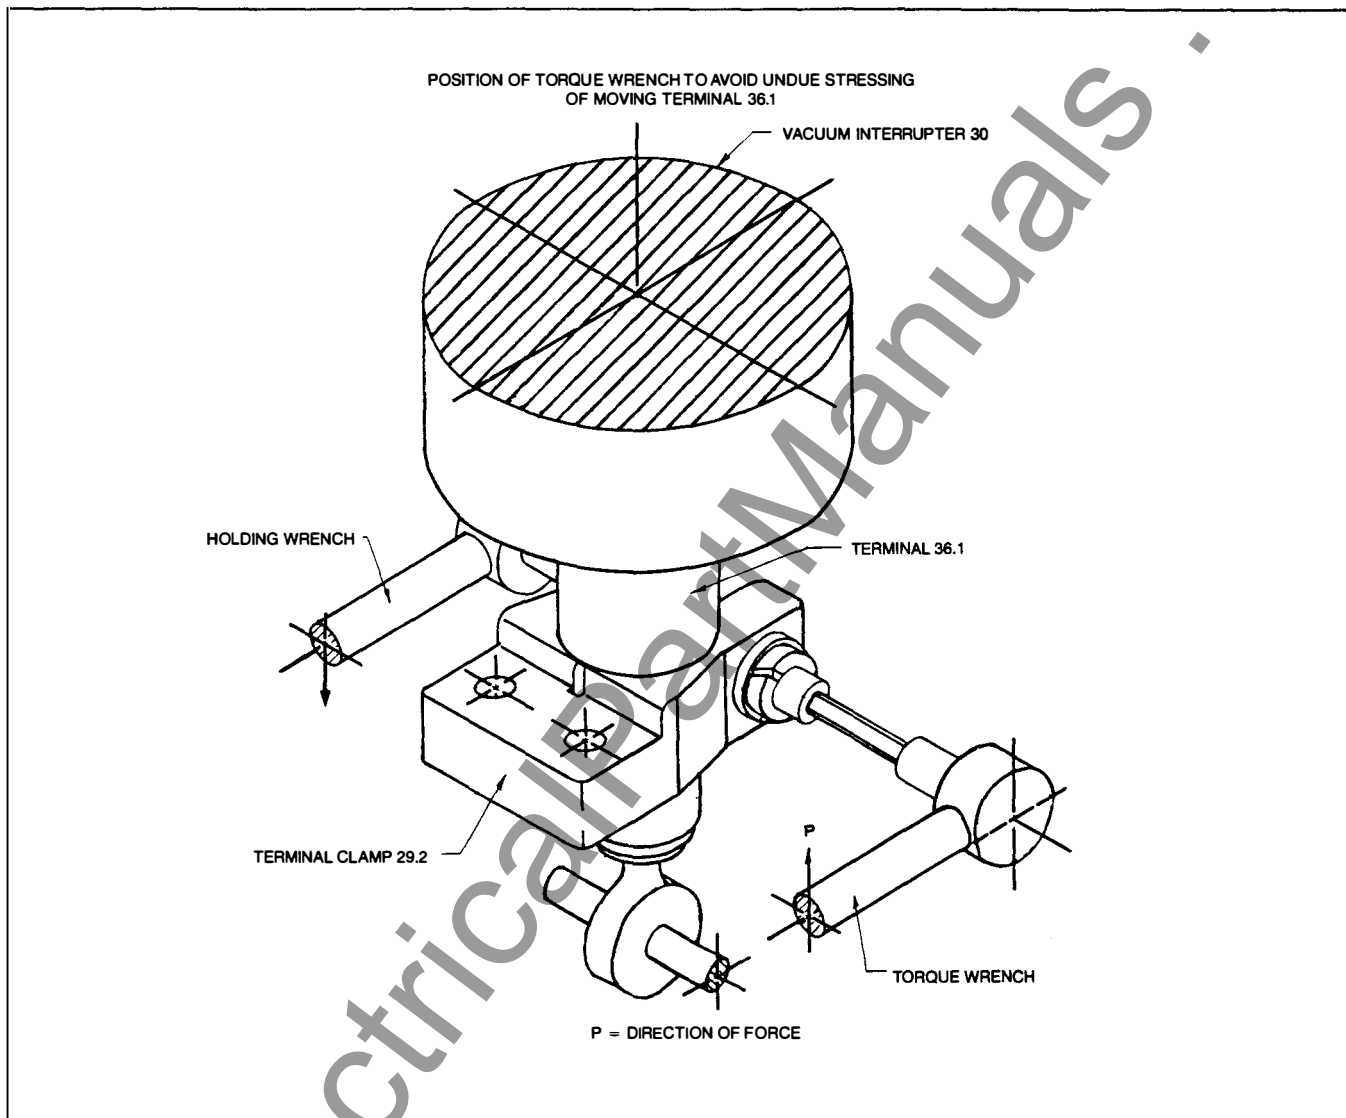

Figure 23
- 1.2 Loosen the lateral bolt(s) on terminal clamp, 29.2. Refer to figure 23 and employ the illustrated procedure to loosen clamp hardware. (8mm hex allen and 17mm socket)
2.7 Elevate terminal clamp, 29.2, against the locking ring on the movable terminal of the vacuum tube, 36.1 and position the interrupter 30, so that its groove faces the connecting surface of flexible strap 29.1. Refer to Figure 23 and employ technique illustrated to fasten terminal clamp. Note opposing wrenches. Tighten the bolt(s) of the terminal clamp to a torque of 30 Lb. Ft. (40 Nm), taking care to see that the copper terminal of the interrupter is not subjected to excessive bending moments.